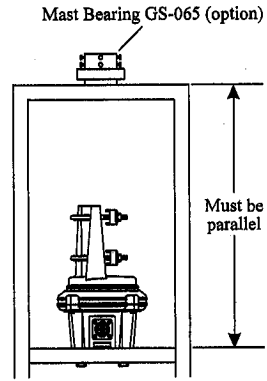

Figure 4
2. If a thrust bearing (such as the optional Yaesu model GS-065) is to be utilized, mount it on the top of the tower (see Figure 4) using the supplied hardware.